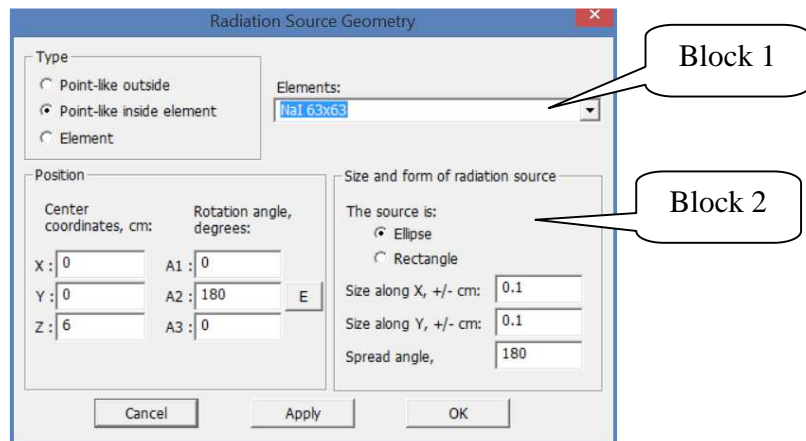

Figure 26.2. Window **Radiation Source Geometry** for type **Point-like inside element**
- **Point-like outside** – The shape of the source is a plane whose geometric parameters are specified in the parameters group **Shape and size of the source** (Figure 26.2, block 2). The coordinates of the source must be outside of any element;
- **Point-like inside element** – the source form is a plane whose geometric parameters are specified in the Parameter group **Size and form of radiation source**. The coordinates of the source must be inside any element, which is specified in the corresponding field (Figure 26.2, block 1);
- **Element** – shape of the source of any geometric element of the design. In this case, the emitted particles will be isotropically generated in the volume of the selected element and, consequently, this structural element will be a volumetric source. For the case of the type **Element** and **Point-like inside element**, you must select the element from the **Element** drop-down list, as shown in figure 26.2, block 1.